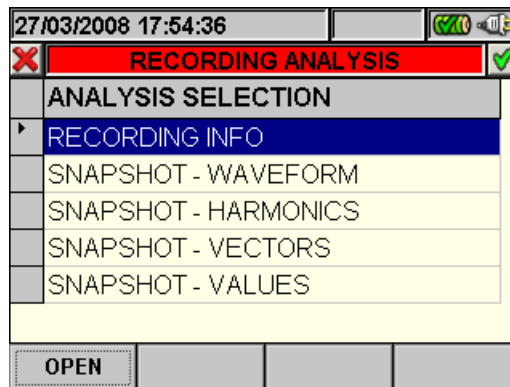

Fig. 143: Recording analysis (Istant-type data)
2. Press the **ESC** key (or the smart icon  on the display) to exit the function and go back to the "Recording analysis" page (Fig. 143).
- The **ESC** key (or the smart icon ) to exit the function and go back to the "Recording analysis" page (Fig. 143).
- The **ESC** key (or the smart icon  on the display) to exit the function and go back to the “Recording analysis” page (Fig. 143).
- The **ESC** key (or the smart icon on the display) to exit the function and go back to the “Recording analysis” page (Fig. 143).
- The **ESC** key (or the smart icon  on the display) to exit the function and go back to the "Recording analysis" page (Fig. 143).
- The **ESC** key (or the smart icon on the display) to exit the function and go back to the "Recording analysis" page (Fig. 143).